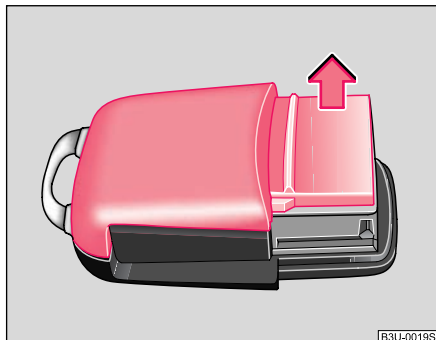

Fig. 20 Battery housing without key portion
- Take off the cover of the transmitter housing ⇒ **fig. 20** in direction of arrow.